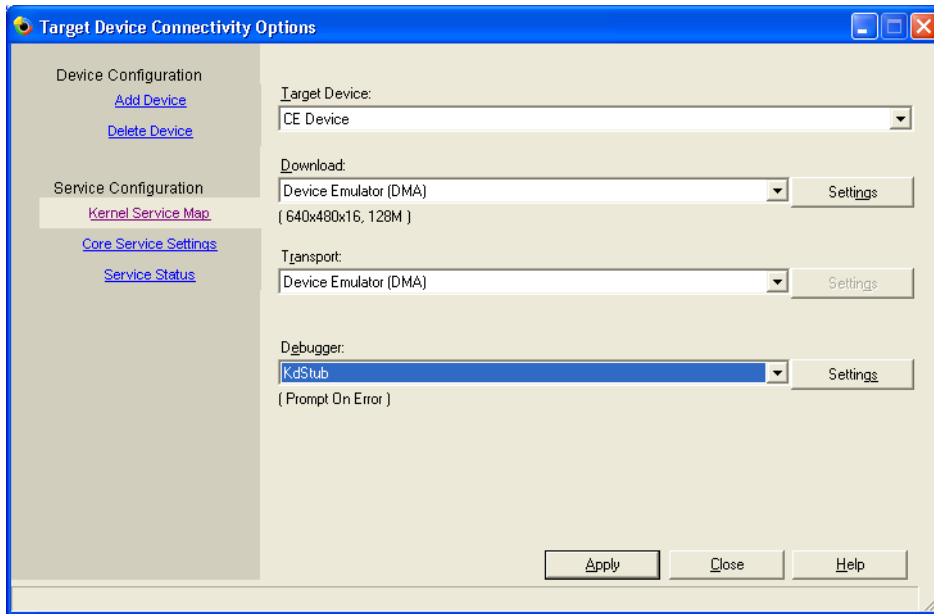

Figure 2-9 Setting Target Device Connectivity Options
5. Select KdStub from the Debugger list box, as illustrated in Figure 2-9.